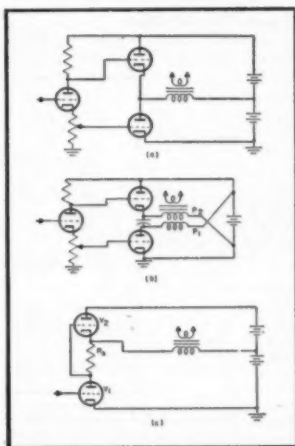

Fig. 2. Series-balanced output stage arrangements.
Fig. 2. Loran Trainer installation. Below, trainer table with chart on top surface which represents the ionosphere. "Crab" travels on masonite-covered platform below chart, and indicates its position by a light beam projected upward from center of transducer. Right, control cabinet for the Loran Trainer.
A photograph of the complete trainer is shown in Fig. 2. (A) is a view of the trainer table, and (B) shows the control racks. The design of the trainer is based on the fact that the velocity of radio signals in air bears a constant ratio to the velocity of sound in air. Specifically, the velocity of sound in air at room temperature is approximately 0.186 nautical